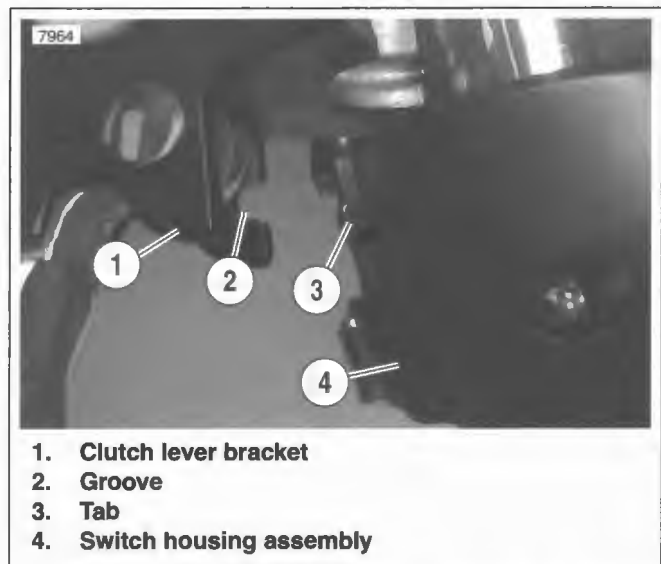

Figure 8-107. Clutch Lever Bracket
5. See Figure 8-107. Position the clutch hand lever assembly inboard of the switch housing assembly, engaging the tab (3) on the lower switch housing in the groove (2) at the bottom of the clutch lever bracket.